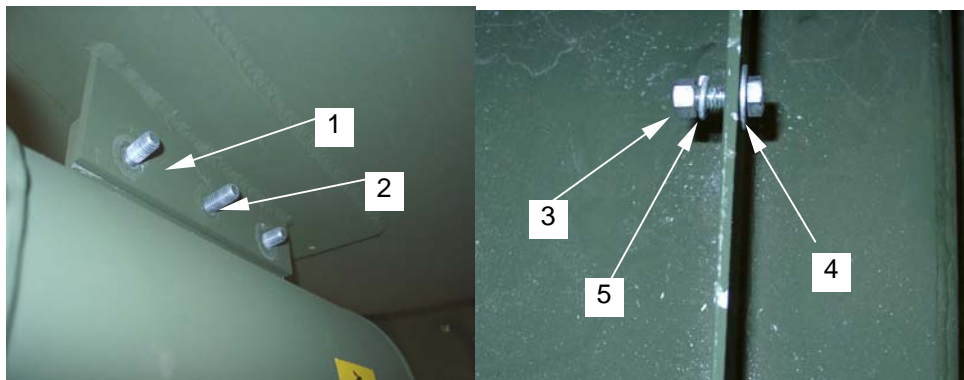

Figure 11. Installing Moisture Trap Body to Bracket
20. Position the moisture trap onto the bracket (**figure 11, item 1**).
21. While supporting the moisture trap, install three hex bolts (**figure 11, item 2**), nuts (**figure 11, item 3**) flat washers (**figure 11, item 4**) and lockwashers (**figure 11, item 5**) into the moisture trap mounting bracket (**figure 11, item 1**).